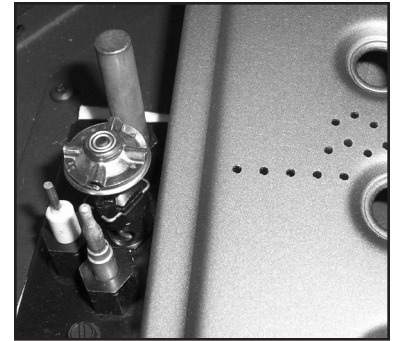

Figure 14. Ignitor assembly beside the burner.
8. Reinstall the burner, brick panels, log set, embers, and glass door. Also refer to SECONDARY INSTALLATION - INSTALLING LOG SET AND EMBERS in your Owner's Manual. When re-installing the burner, ensure that the burner to pilot hood relationship is similar to what is shown in Figure 14. On some units you will need to pay special attention when installing the burner that the venturi adjustment rod is properly installed into the venturi adjustment piece welded to the burner venturi tube